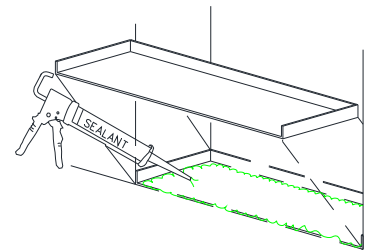

Figure 9:
- With bottom side of sill pan up, apply a 3/8" bead of compatible sealant 1/2" in from interior leg. Sealant bead to run across the bottom as well as up each vertical leg of the sill pan. Also apply sealant beads near the sides and across the front (Figure 9).
- Secure the sill pan to the floor with glue. Position sill pan as necessary to allow for proper installation of frame assembly (Figure 9).